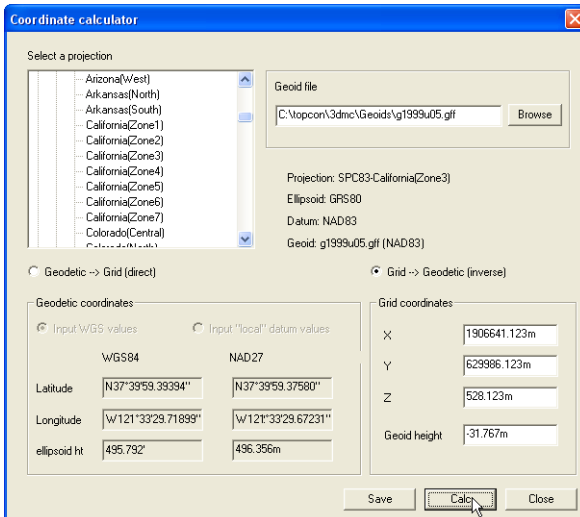

Figure 2-15. Coordinates Calculated
5. Click **Calc.** 3D-Office calculates the geodetic coordinates and the geoid height (if applicable) (Figure 2-15).